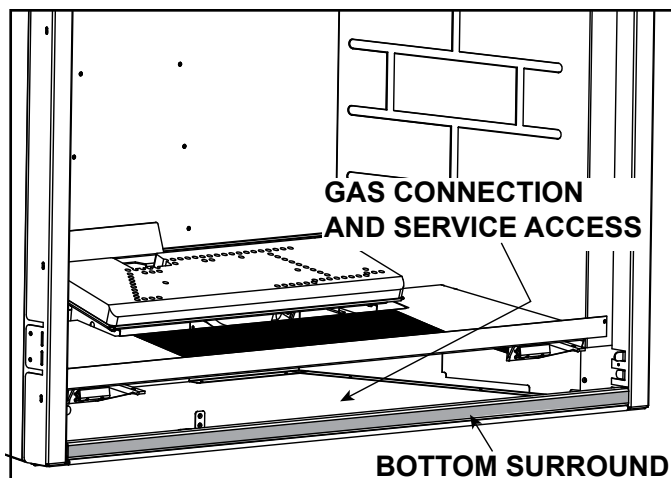

Figure 9.1 Bottom Surround Removal
- The bottom surround for this appliance may be removed to gain access to the control cavity for ease of access during the gas connection process. See Figure 9.1 and 9.3.